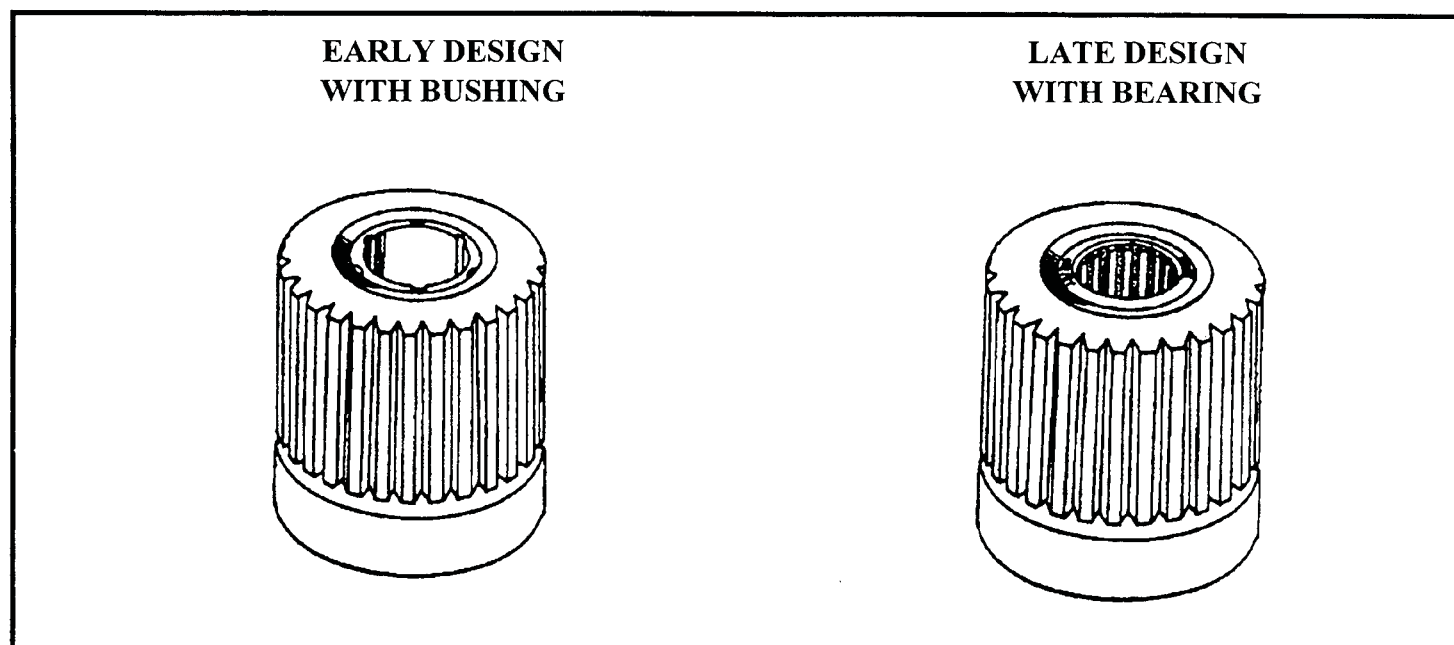

Figure 26
- (2) OUTPUT SHAFT - Previous design bushing was replaced by a caged needle bearing. (See Figure 26). The caged needle bearing is not serviced separately from Ford Motor Co.